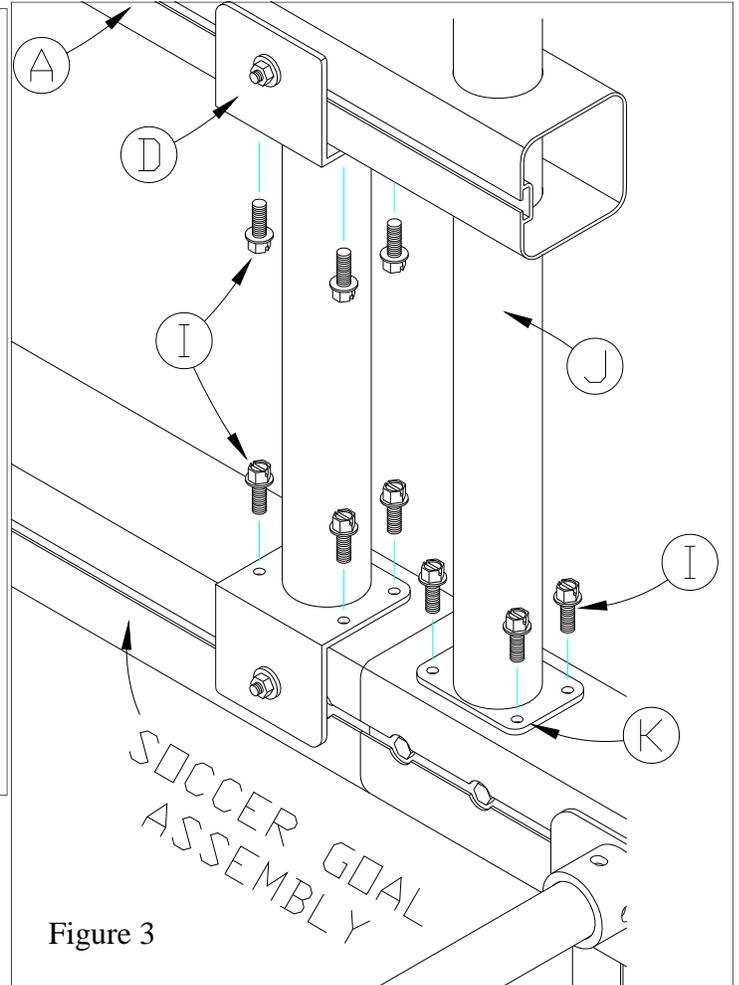

Figure 3
5. Fill each *Ballast Drum* (T) **completely** with sand, making sure the sand is compacted. They should hold approximately 60-75 lbs. of sand each. Once full, install the *Plug* (U) and tighten securely to ensure there is no sand escaping. **See Figure 3.**
6. On each end of the *Backstay Spreader Tube* (L), slide one *Locking Collar* (V) followed by one *Ballast Drum* (T) and another *Locking collar* (V). **See Figure 3.**
7. Install and tighten "T" *Connector* (H) to each end of the *Backstay Spreader Tube* (L) using the 5/16" x 2 3/4" *Hex Bolt* (F) and 5/16" *Nylon Lock Nut* (G). **See Figure 3.**
8. Using the 5/16" *U-Bolts* (S) and the 5/16" *Nylon Lock Nuts* (G) assemble the "T" *Connector* (H) around the angled portion of